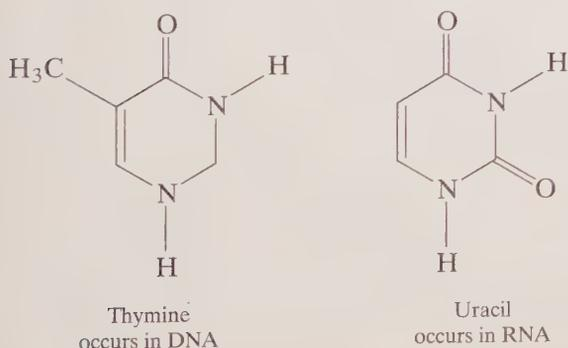

Figure 18.12 Thymine and uracil.
- In RNA the amine *uracil* replaces the thymine of DNA (Fig. 18.12).